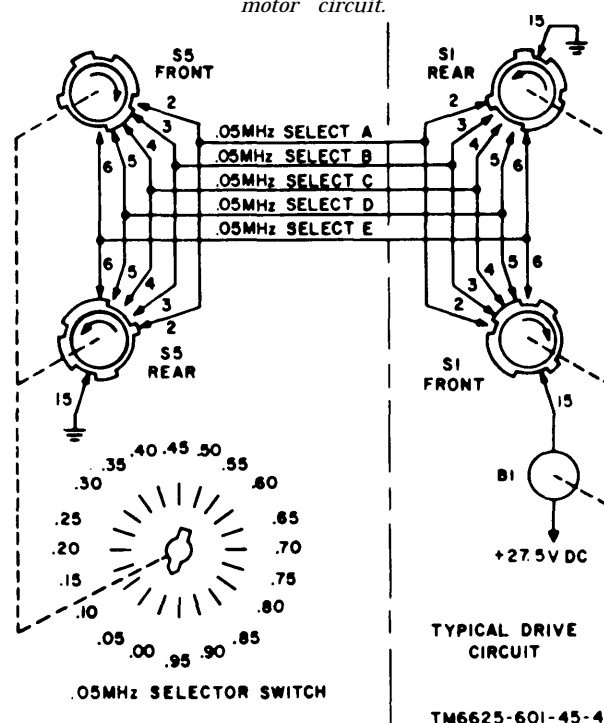

Figure 1-4. Simplified .05 megahertz selector switch and typical drive circuit.
c. Simplified 0.05-Megahertz Switching. Switch S5 selects fraction megahertz in steps of 0.05 megahertz. Figure 1-4 shows the 0.05-megahertz selector switch connected to a typical drive circuit. Switch S5 is shown in the .00 position. In this position, 0.05-megahertz select lines A and E are grounded by switch S5 (rear). Drive motor B1 has positioned switch S1 so that 0.05-megahertz select lines A and E, connected to contacts 2 and 6 of switch S1 (front), respectively, are open. Setting switch S5 to .05 applies ground through switch S5 (rear) to 0.05-megahertz select line B. Ground from 0.05-megahertz select line B, applied through contact 3 of switch S1 (front), energizes motor B1; this turns switch S1 in the direction shown by the arrows. When contact 3 reaches the open segment of switch S1 (front), the ground circuit